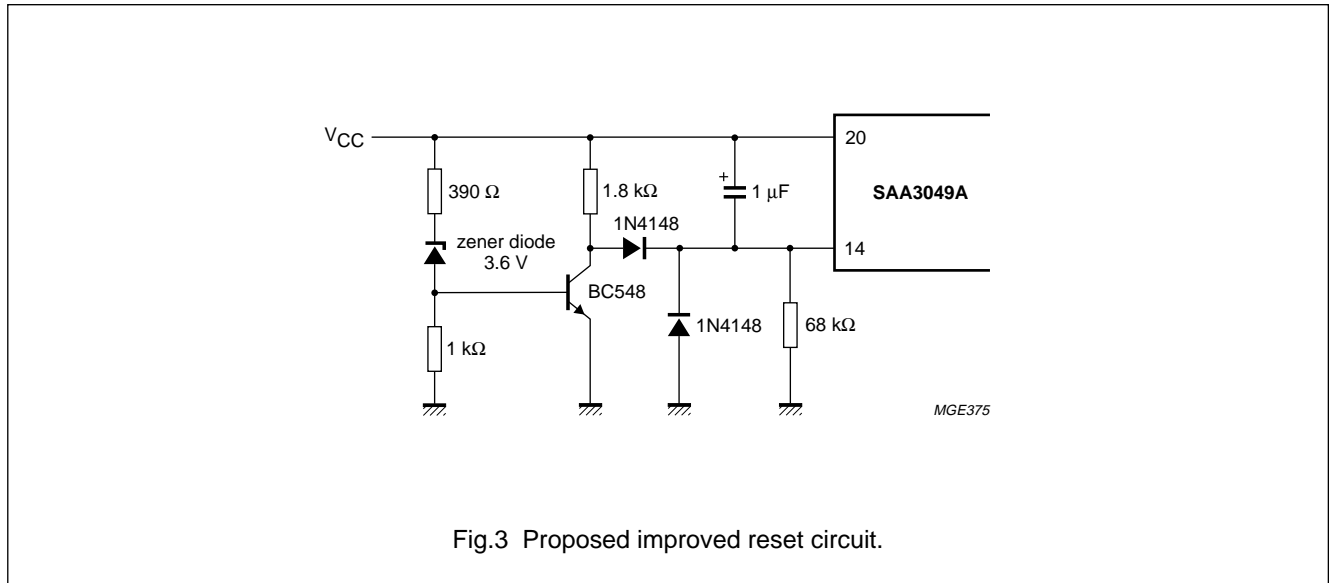
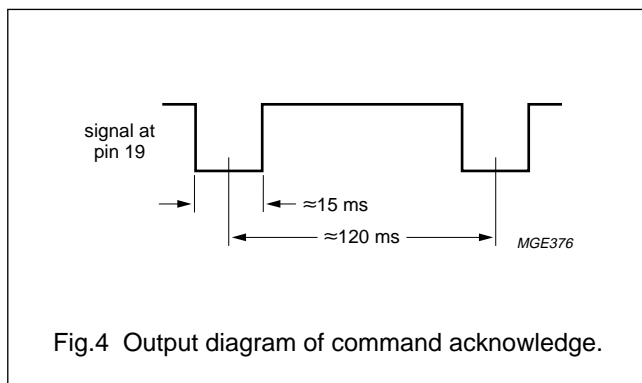
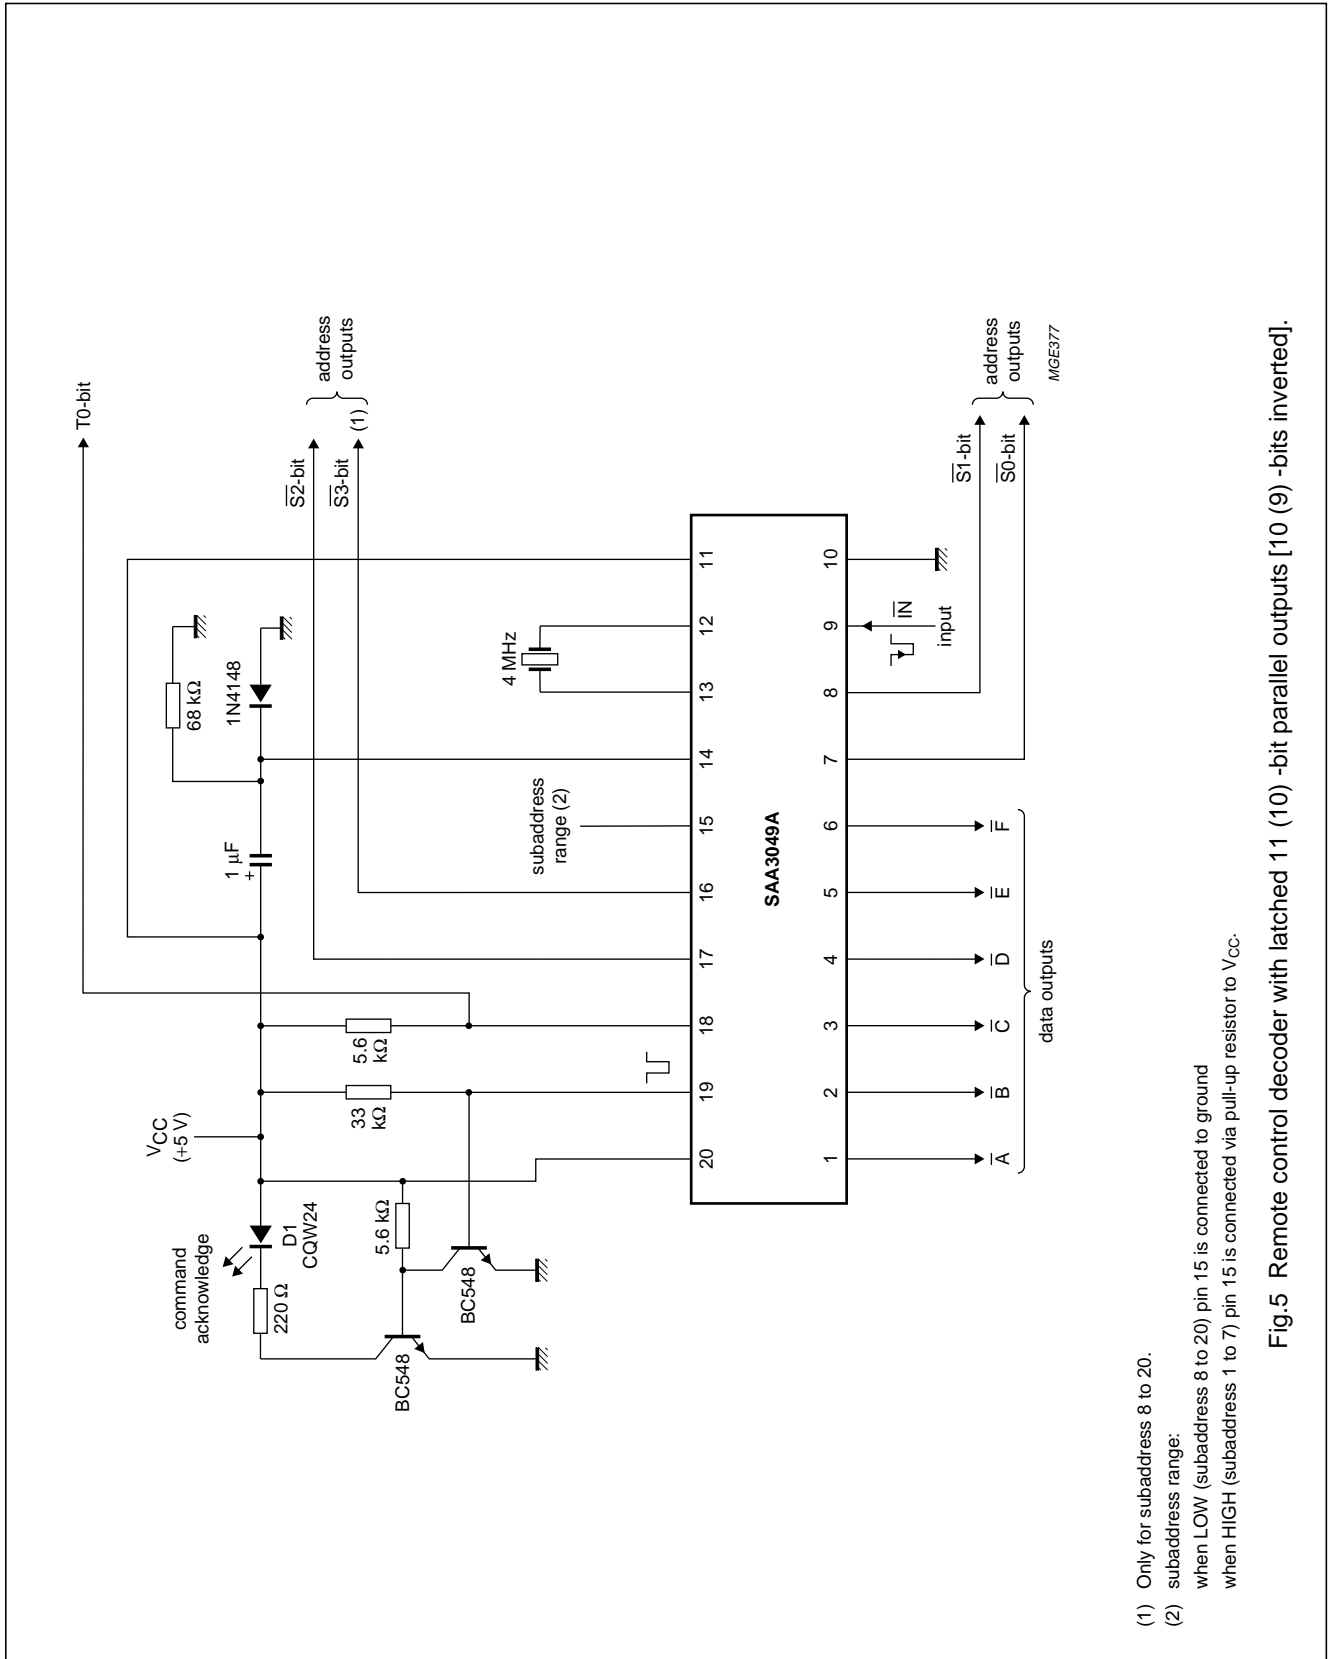

Fig.3 Proposed improved reset circuit.
Fig.4 Output diagram of command acknowledge.
Fig.5 Remote control decoder with latched 11 (10) -bit parallel outputs [10 (9) -bits inverted].
- In Figs 5, 6 and 7 this HIGH/LOW switching is dependent on whether the transistor on pin 19 is fed via a series resistor or not. In both applications pin 19, which toggles several times (see Fig.4) while a valid command is acknowledged, can be used to activate (flash) an LED indicator.
The circuit is shown in Figs 5, 6 and 7. The alternative reset circuit shown in Fig.3 protects against short term power supply transients by generating a reset.
In Fig.5, the circuit shown is for use with transmitters SAA3004, SAA3007 or SAA3008; pin 11 is HIGH for RECS80 code.